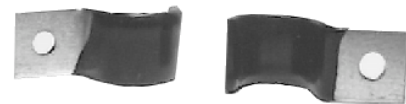

Figure 3: Mounting Brackets
Step 5. Secure the cables by using the provided mounting brackets. There are two mounting brackets (See Figure 3). Pass the power cord from the side of the housing and attach it to the surface with the cable-clamp supplied with the **PNP202** unit. Do not keep the cord too tight or too loose (See Diagram 4, page 6).